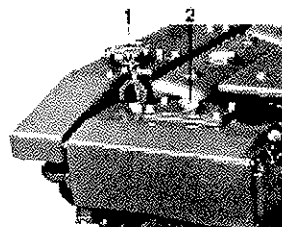

Fig. 15. TAMD60
On **TAMD60**, small topping-up quantities may be added to the expansion tank (1, fig. 15) but in other cases remove the hexagon plug (2) and add coolant directly into the heat exchanger until the system is completely full and air-vented. Then close the air-venting cocks and fit the hexagon plug. **Afterwards** fill the engine expansion tank up to about 5 cm (2") below the filler cap sealing surface (to allow for coolant expansion) and refit the cap.